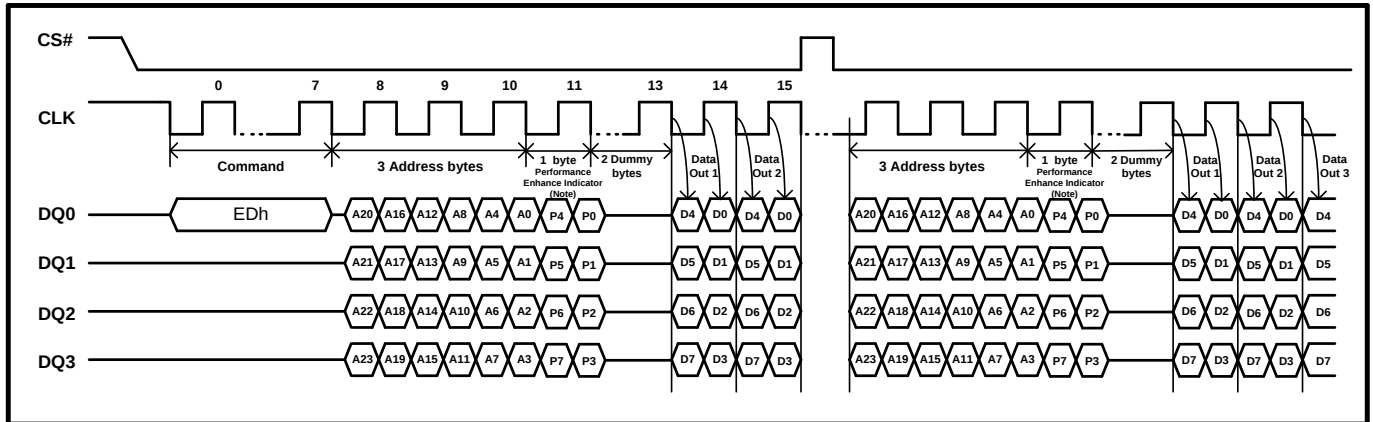

Figure 24.1. DDR Quad Input/Output Fast Read Enhance Performance Mode Sequence Diagram
-> data out (8-bit per clock) still CS# goes high -> CS# goes low (eliminate Quad Input / Output FAST_READ) -> 24-bit random access address, as shown in Figure 24.1.